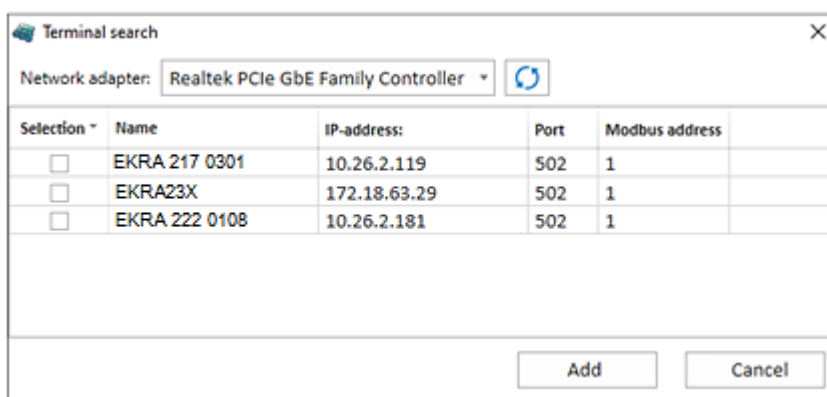

Figure 267 – IED search window
2) Add a connection  (figure 267).